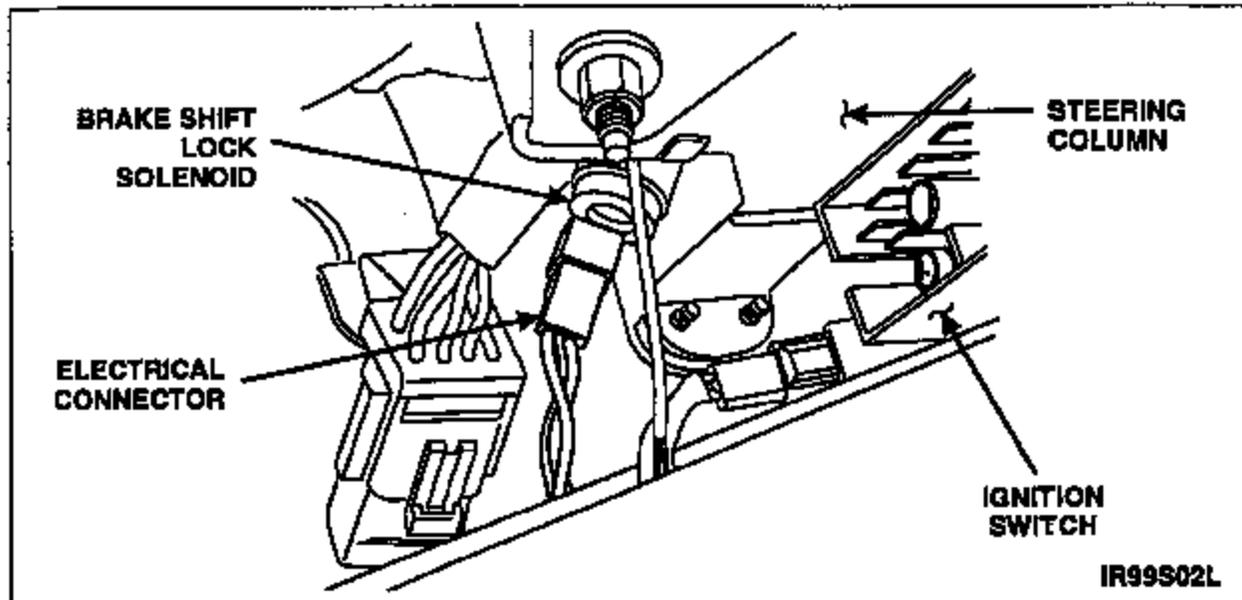

FIGURE 12
15. Disconnect brake shift lock solenoid electrical connector. See Figure 12.